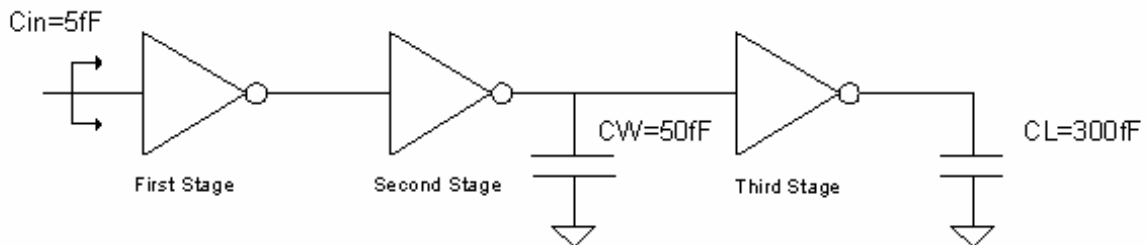

Figure 4b. Buffer Chain with Interstage Wire Capacitance
- Now go to the circuit in Fig.4b. Suppose that there is a 50fF wire capacitance between the second stage and the third (output) stage. What are the sizes of the two buffers in this case that will minimize the propagation delay?